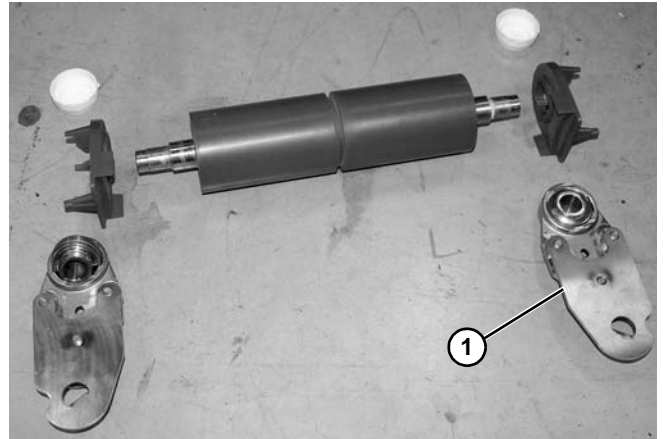

Figure 138
- Repeat for opposite side headplate (**Figure 138, item 1**).